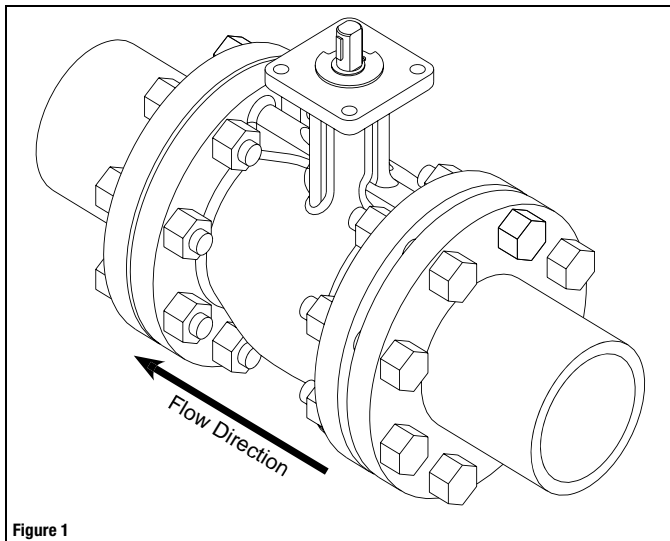

Figure 1
2. **Figure 1 illustrates a flanged valve installation.**